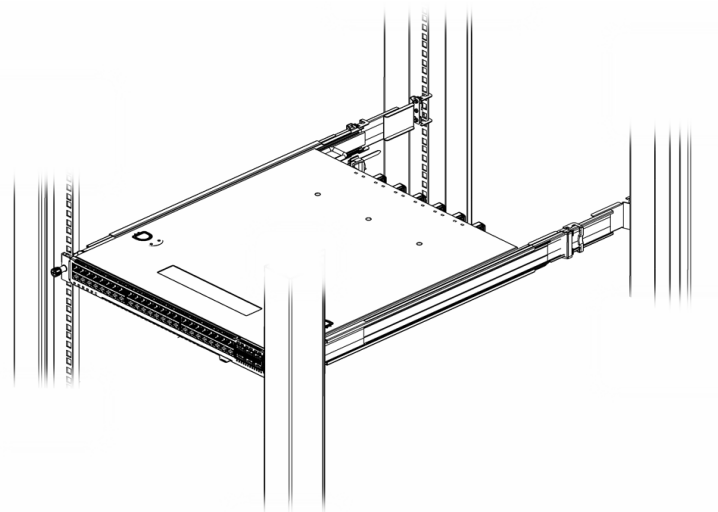

Figure 13: Completed Installation: Switch in 4-Post Rack
13. Screw the mounting ear thumbscrews into the rack rails to hand tightness. The completed assembly is shown in Figure 13.